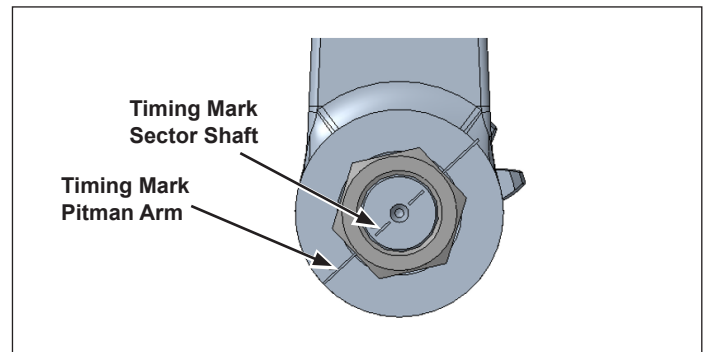

Figure 10 - Installing the Pitman Arm
3. Install the pitman arm to the steering gear sector shaft. Make sure that the timing mark on the steering gear sector shaft and the pitman arm align (See Figure 10).